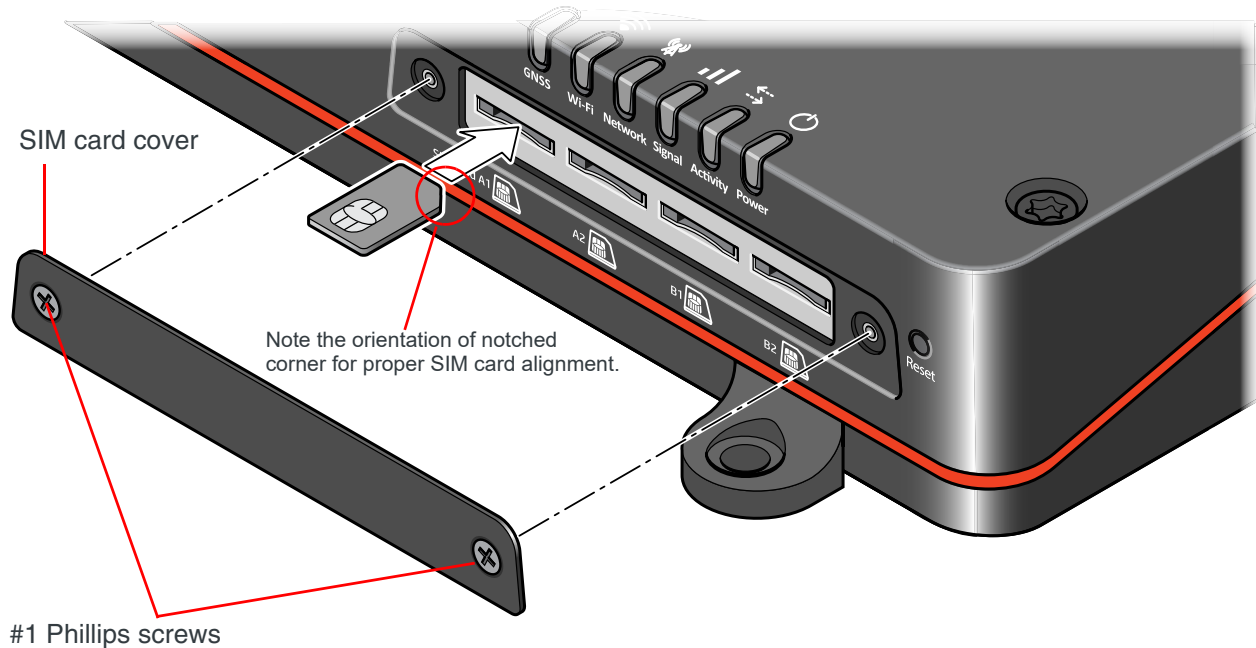

Figure 2-1: Installing the SIM Cards
The MG90 has four mini-SIM (2FF) card slots—two slots for each radio module (up to two radios). The card slots are located behind a removable plate on the front of the device as shown in Figure 2-1 on page 15.
2. Orient the SIM card(s), as shown in Figure 2-1 (Gold contacts on the SIM cards face-up).